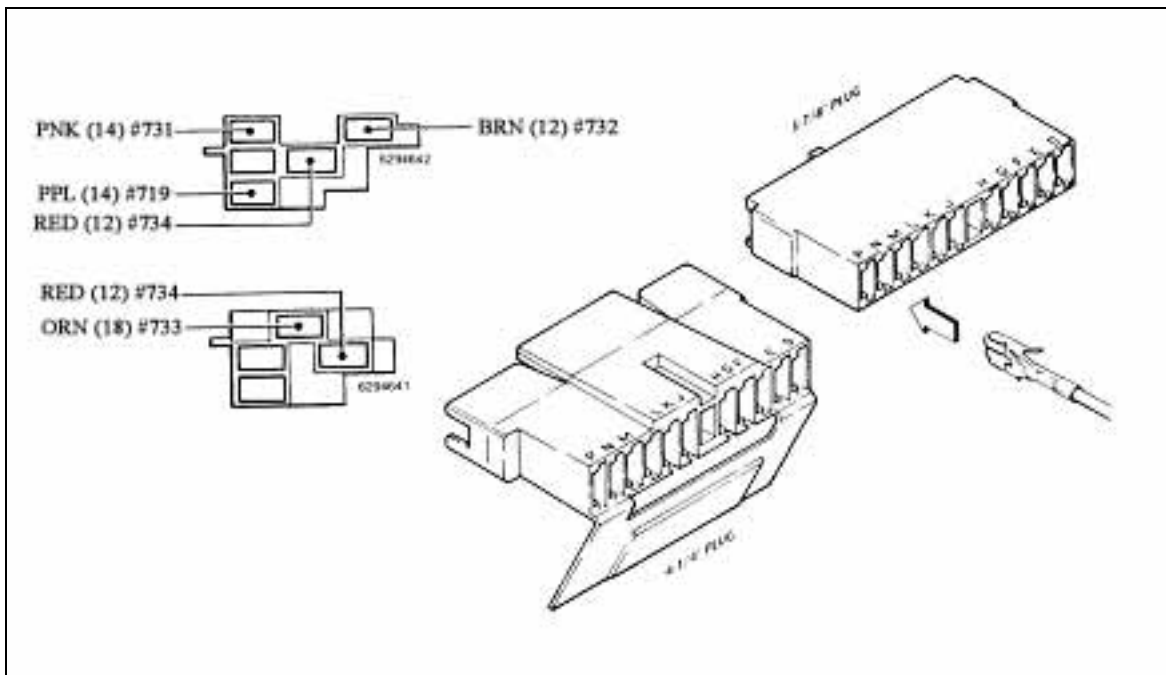

Figure 7-5 GM Turn Signal Connectors
7.5.1 There are two different turn signal switch plugs on most tilt columns. The difference is in the length of the male plug that is mounted ON THE COLUMN. One plug is 3-7/8" (3.875") long and the other is 4-1/4" (4.250"). This is only a difference of 3/8" (0.375"), so measure the plug carefully. The Wire Harness Kit has included two different female connectors to mate with the column-mounted plug. See **Figure 7-5** to determine which female connector is correct for your automobile.
Cut Turn Signal Section wires to length and install terminals provided. Choose the proper plug and install the terminals according to **Table 7-1**, as shown in **Figure 7-5**. The GM wire color codes have been included for reference.
*Note: The terminals will only insert into the connector ONE WAY, as shown in **Figure 7-5**. Make certain you are inserting the wire into the CORRECT LOCATION as the terminals are difficult if not impossible to remove once inserted.*
7.5.2 Cut Ignition Section wires to length and install terminals provided. See **Table 7-1** and **Figure 7-5** for color codes, wire numbers, and wire designations for the Ignition Switch Connectors.